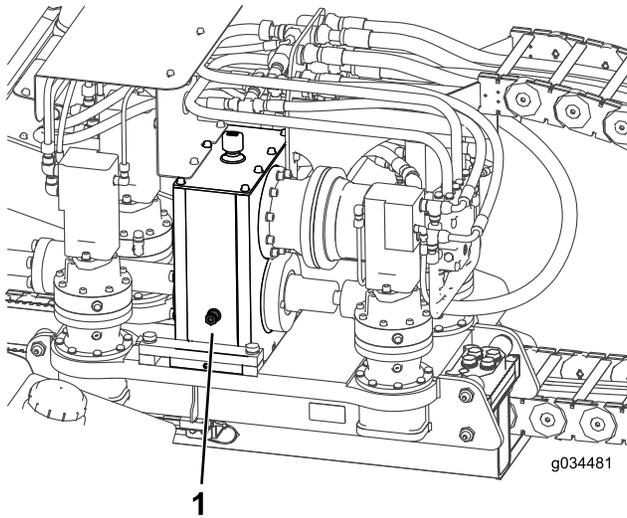

Figure 103
2. Check the oil level on the sight-glass on each thrust motor planetary drive (Figure 103).
3. Remove the breather cap and add the oil into the planetary drive until the oil level on the sight-glass is at least half full (Figure 103).
2. Check the oil level on the sight-glass on the gearbox drive (Figure 103).
3. Remove the breather cap and add the oil into the gearbox drive until the oil level on the sight-glass is at least half full (Figure 103).
8. Fill the gearbox with oil until the oil level in the sight glass is more than half full (Figure 103).